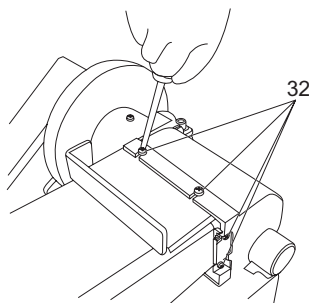

Fig. 31
- > Loosen and remove the four screws (32) on the fixed guard (33). Remove the fixed guard (33). (Fig. 31, 32)